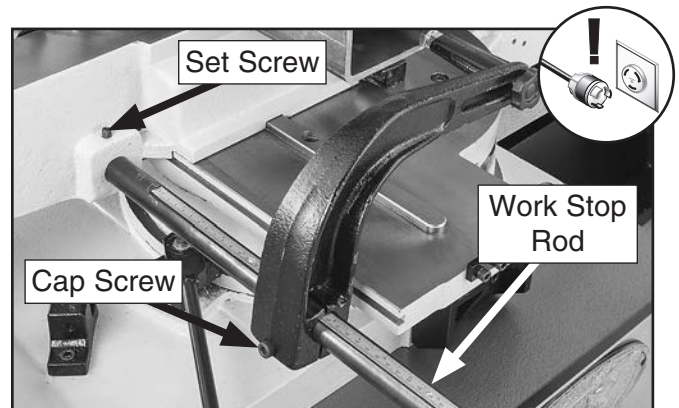
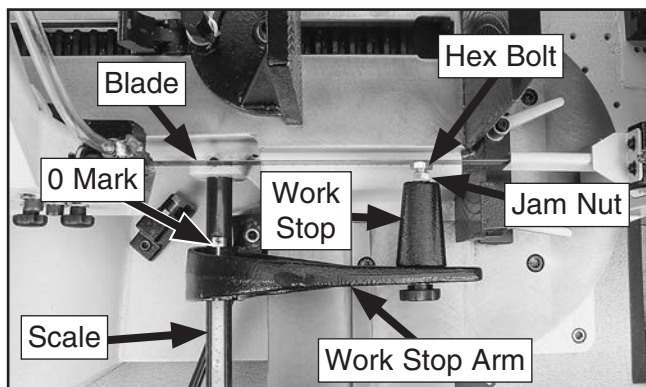

Figure 37. Location of front set screw for setting stop rod.
Figure 39. Top view of work stop rod aligned with "0" on scale and hex bolt touching blade.
3. Loosen set screws shown in **Figures 37–38**.
6. Loosen cap screw shown in **Figure 37** on **Page 32**, and align front of work stop arm with "0" mark on stop rod scale, as shown in **Figure 39**.
7. Adjust hex bolt on work stop to just touch blade, then tighten jam nut against work stop (see **Figure 39**).